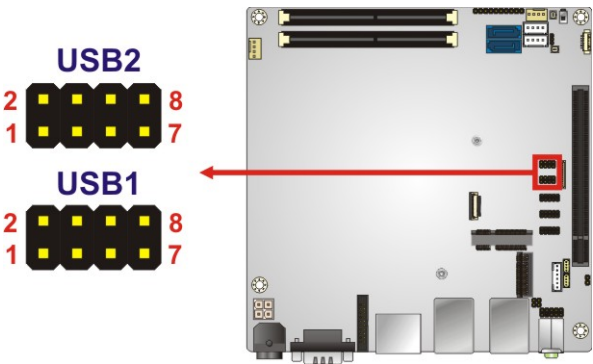

Figure 3-27: USB 2.0 Connector Locations
- CN Location: See Figure 3-27